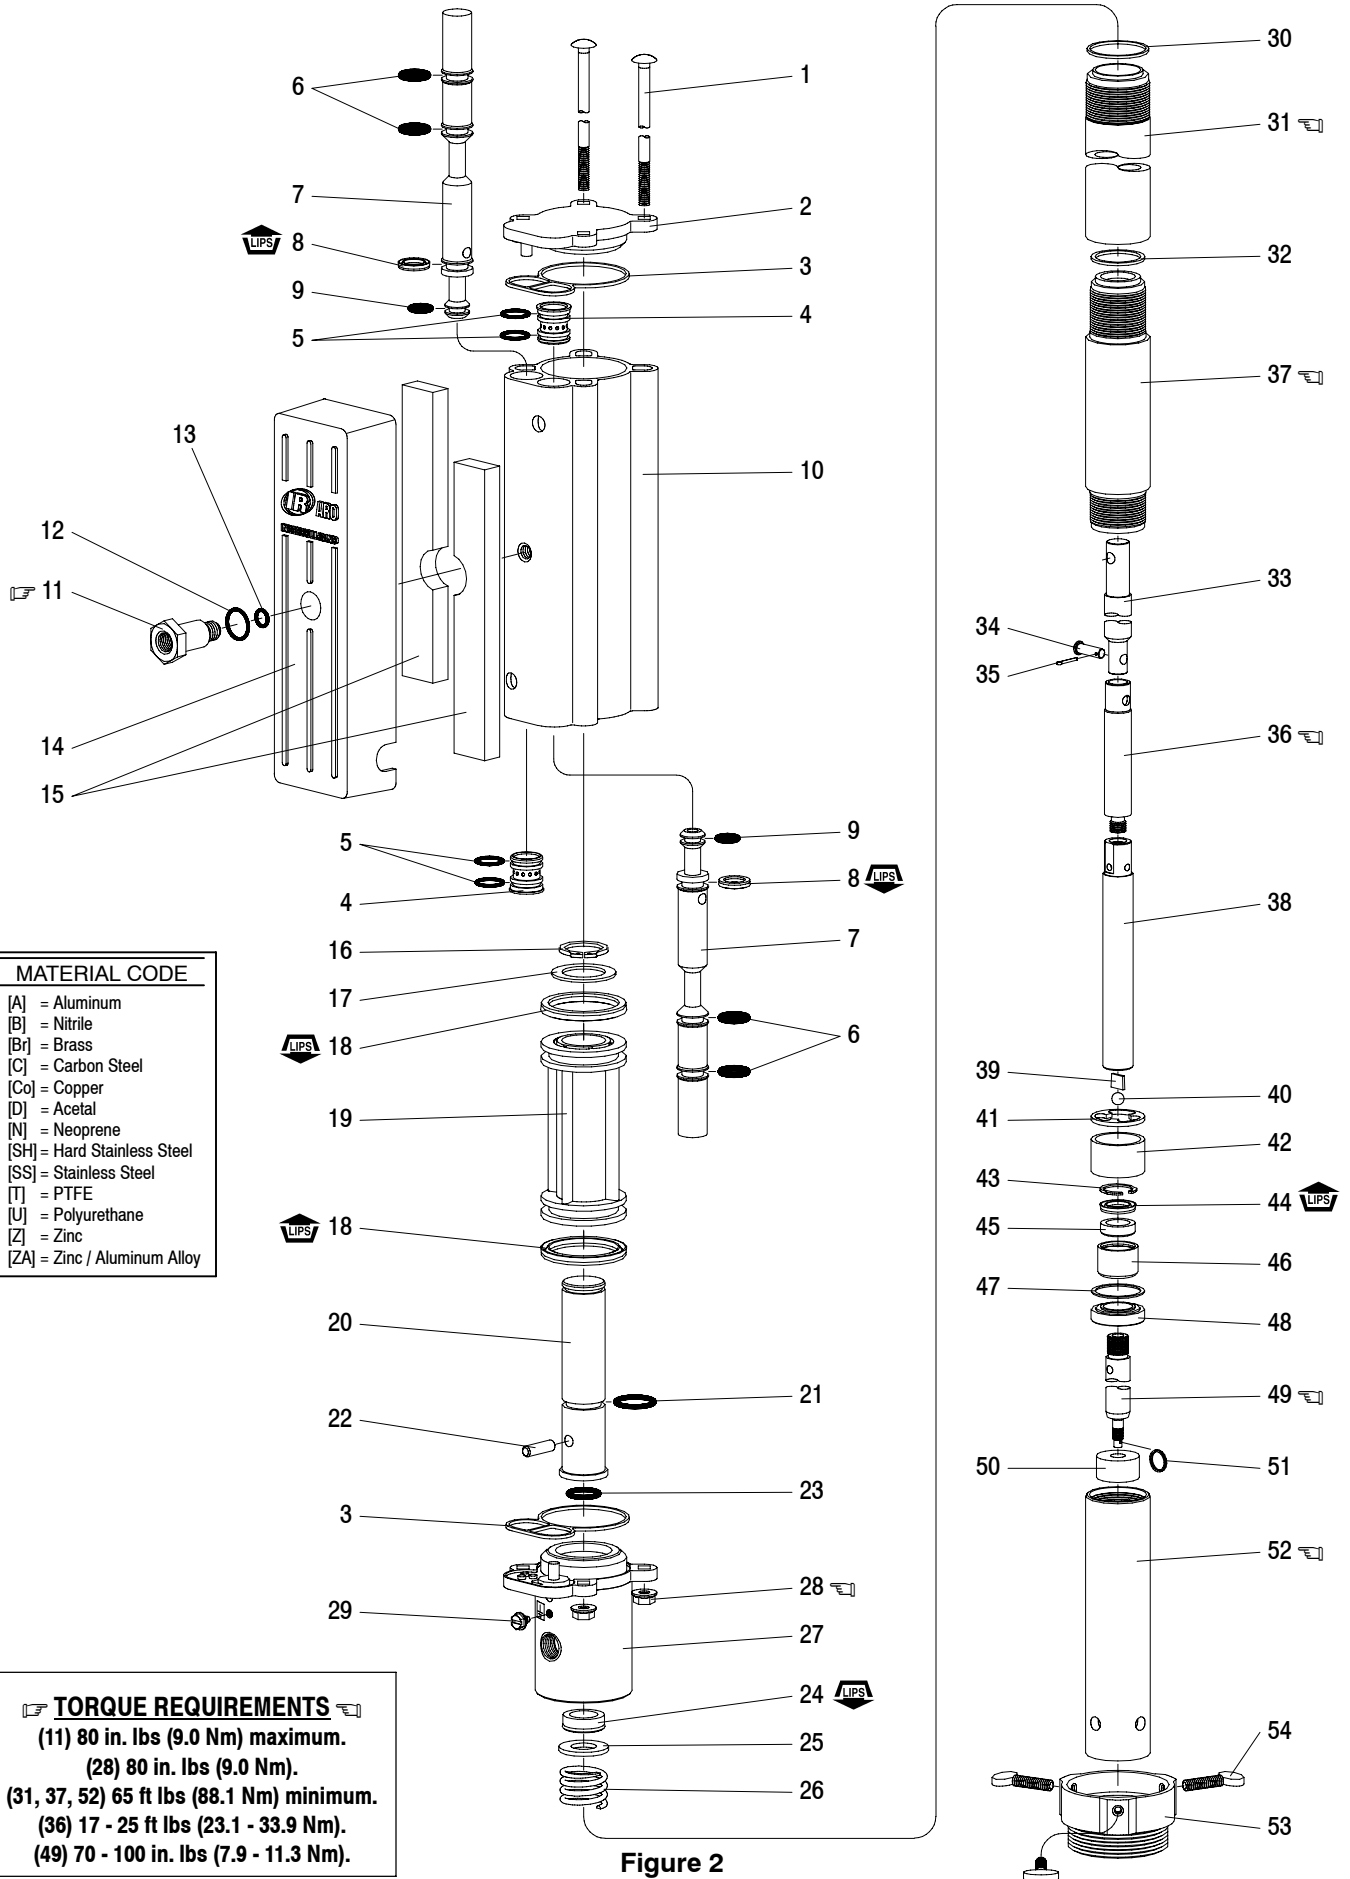

Figure 2
**NOTE: All threads are right hand. Refer to figure 2 (page 3). Disconnect air supply and relieve all system pressure prior to servicing.** Carefully remove the parts, inspect for damage, nicks or excessive wear and determine if any parts will need replacement.
1. Using a 7/8" wrench, unthread and remove (11) adapter, containing (12 and 13) "O" rings, releasing (14) muffler housing.
2. Using a 7/16" wrench, remove (28) nuts.
3. Remove four (1) bolts, (2) upper cap and (3) gasket.
4. Remove (10) cylinder, containing (4) sleeves and (7) spools.
5. Using (1) bolt, push (7) spools and (4) sleeves out "sleeve" end of (10) cylinder.
6. Remove (16) retaining ring, (17) washer and (19) piston.
7. Remove (22) dowel pin, releasing (20) piston adapter.
8. Remove (3) gasket.
9. Clamp (31) extension tube horizontally in a vise. Unthread and remove (27) base, (30) gasket, (26) spring and (25) washer. NOTE: Remove (24) rod seal only if replacement is necessary.
10. Pull up on (33) piston rod to reveal (35) cotter pin.
**NOTE: Thoroughly clean and lubricate all seals and bores with Shell Darina "EP" 2 upon assembly. Replace all soft parts with new ones included in the repair kit.** Note: Refer to the illustration (figure 2, page 3) for "U" cup lip seal direction.
1. Assemble (39) ball stop and (40) ball into (38) plunger, securing with (49) primer rod. NOTE: Torque (49) primer rod to 70 - 100 in. lbs (7.9 - 11.3 Nm).
2. Thread (36) connector to (38) plunger, using a 7/32" diameter rod thru the cross hole to tighten. NOTE: Tighten (36) connector to 17 - 25 ft lbs (23.1 - 33.9 Nm).
3. Assemble (45) guide and (44) "U" cup into (46) valve body, securing with (43) retaining ring. NOTE: Assemble chamfered corner of (45) guide into (46) valve body first.
4. Assemble (41) guide washer and (43 - 46) foot valve assembly onto (49) primer rod.
5. Assemble (42) spacer, (47) gasket and (48) valve seat onto (49) primer rod.
6. Thread (50) primer onto (49) primer rod, securing with (51) retainer ring.
7. Thread (52) primer tube to (37) lower suction tube and tighten. NOTE: Torque (52) primer tube to 65 ft lbs (88.1 Nm).
8. Assemble (33) piston rod to (36) connector, securing with (34) connecting pin and (35) cotter pin.
9. Assemble (32) gasket and (31) extension tube to (37) lower suction tube and tighten. NOTE: Torque (31) extension tube to 65 ft lbs (88.1 Nm).
10. Assemble (23) "O" ring, (24) rod seal, (25) washer, (26) spring and (30) gasket into (27) base and assemble (27) base to (31) extension tube. Clamp (27) base horizontally in a vise and tighten (31) extension tube. NOTE: Torque (31) extension tube to 65 ft lbs (88.1 Nm).